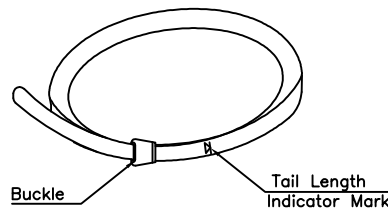

Figure-3
- B. Pull on Band until Mark (▷) is within approximately .250 inch (6.4mm) of Buckle Slot (figure-3). The Band may be tightened further if desired.
4. Using a suitable Band Assembly Tool^①, tighten and assemble the coiled band to fix the prepared braid over the Adapter terminating area firmly.
① We recommend the following tools from